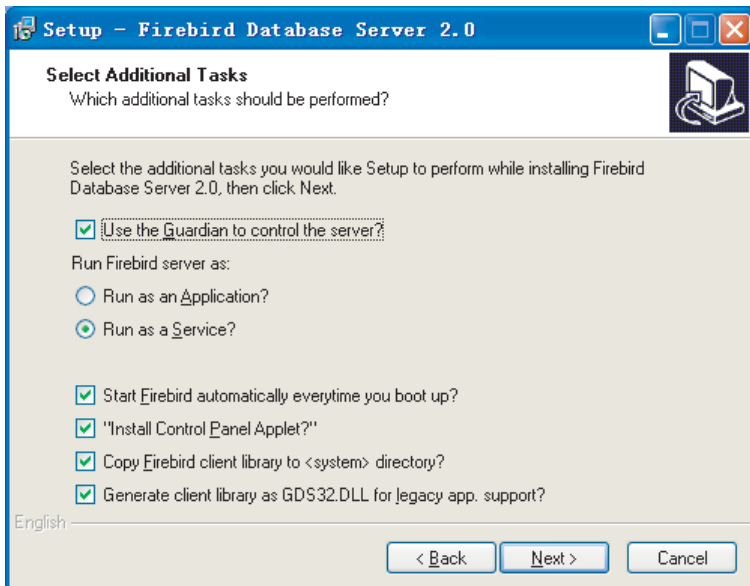

Fig. 2-9
8) Installation window as Fig. 2-9, select the items as Fig.9, and click “Next” to continue the next step installation: